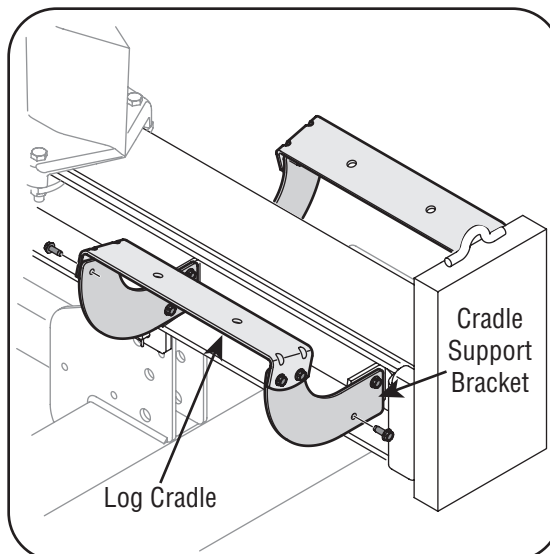

Figure 3-11
3. Insert two self tapping screws through the cradle support bracket and the beam flange. Do not tighten at this time. See Figure 3-11.
6. Insert four self tapping screws through the log cradle and cradle support brackets. Tighten all eight self tapping screws securely. See Figure 3-11.